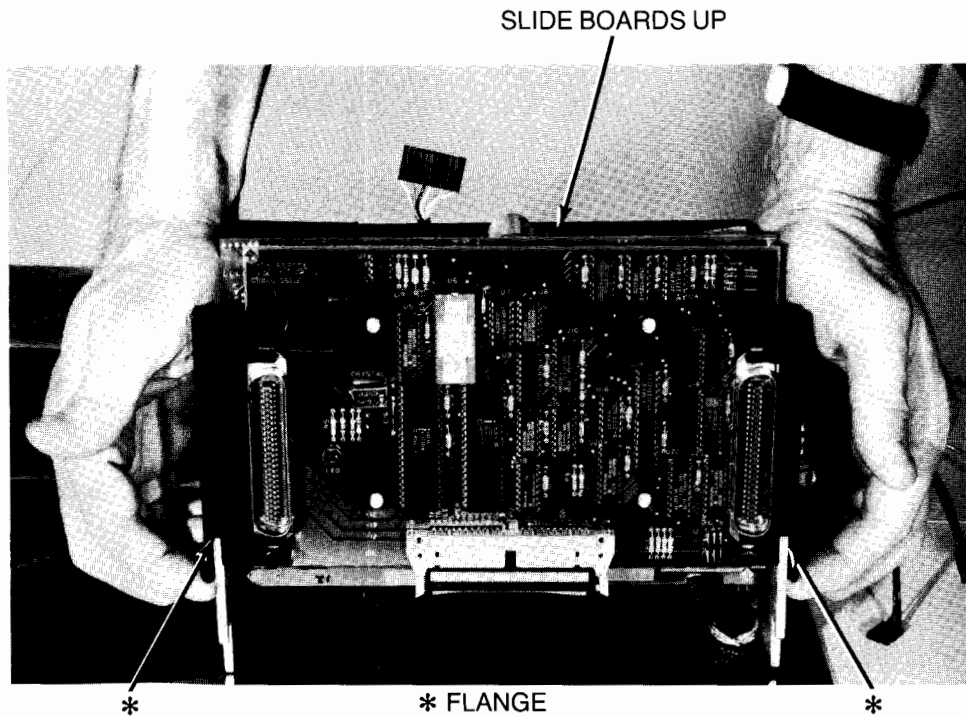

Figure 4-46. Removing Logic and Motor Drive Boards
6. Pull the snap ends of the black plastic flanges slightly outward and slide boards up and out of printer (Figure 4-46).